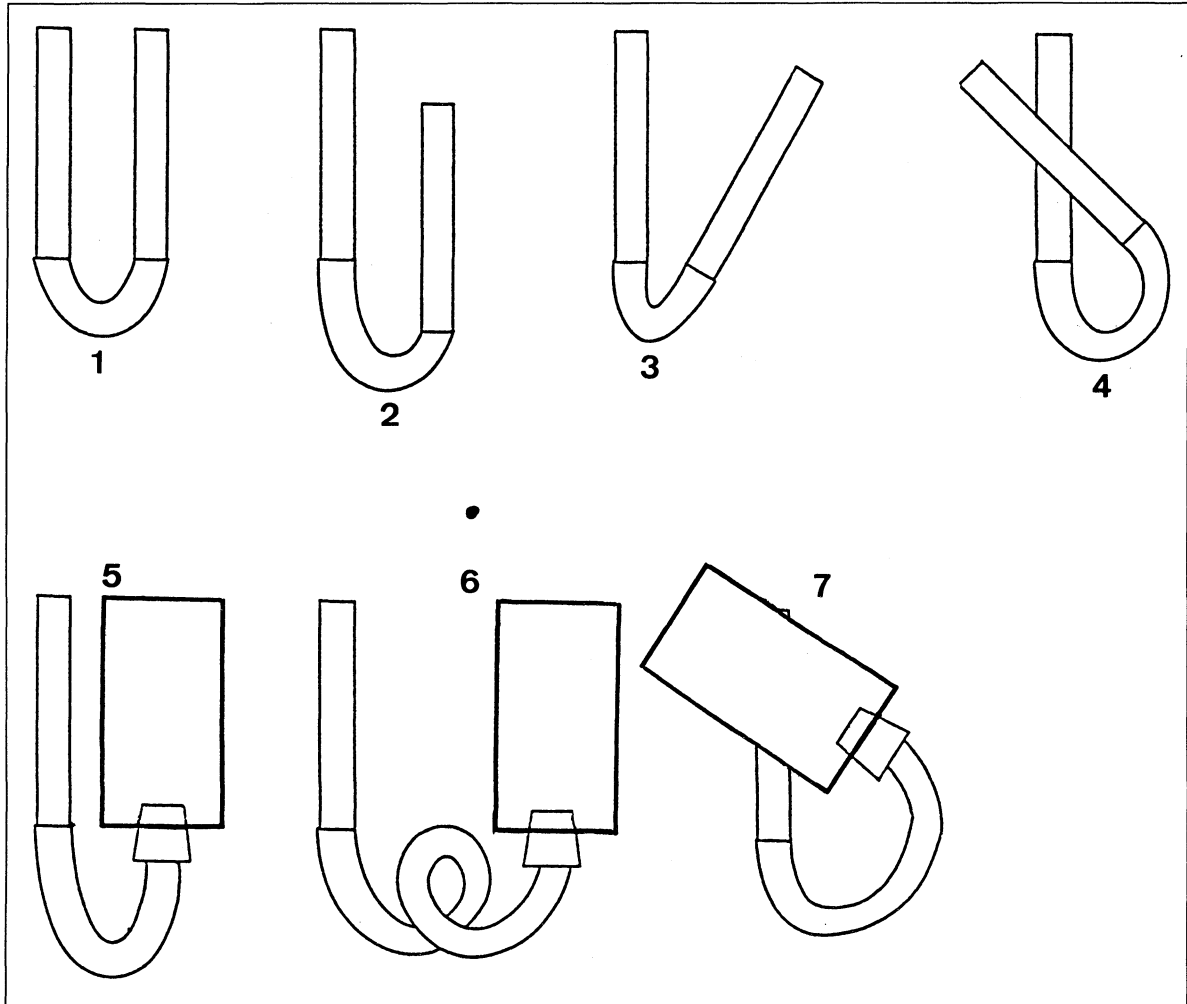

Fig. 2 Worksheet
6. Prepare a worksheet as shown in fig. 2.
9. Take the right-hand limb out of the double pipe holder and hold it next to the left-hand limb, as shown in fig. 2. Enter the water level in each limb on your worksheet (steps 2–4).
15. Take the plastic pipe (\varnothing 25 mm) out of the universal clamp and hold it alongside the left limb, as shown in fig. 2. Enter the two water levels on your worksheet (steps 6 and 7).